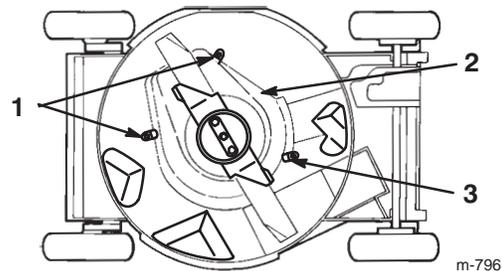

Figure 26
6. Loosen the tabs that secure the BBC shield to the deck by loosening the nuts or the bolts on the tabs (Fig. 26). Rotate the tabs 180° to move them out of the way.